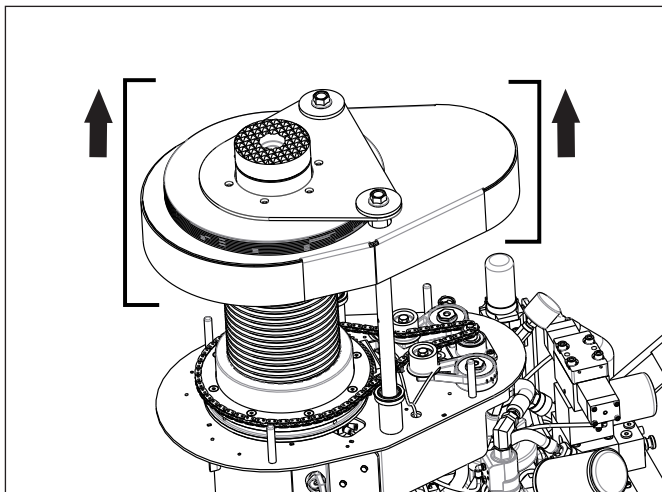

Figure 18, Lifting Front Access Cover to Expose Threads
**⚠ WARNING** Be certain that air supply hose is disconnected and that air regulator pressure gauge indicates zero (0) psi/bar before continuing with this procedure. Jack will start immediately if air pressure is indicated on gauge, and either pendant button is depressed. Lock nut and chain will begin turning. Serious personal injury could occur if jack is started while persons are performing lubrication procedures.
4. Raise the jack front access cover so that the cylinder threads are exposed as much as possible. See Figure 18.